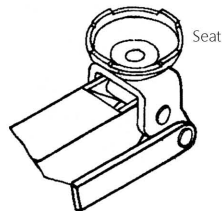

Fig. 2
- Place the jack under the car in the location acceptable for hoisting (see the manual of the car for details), see Fig. 2.